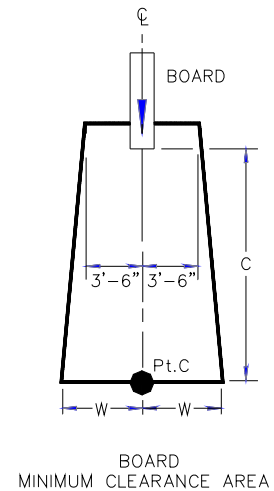

FIGURE 4
- A. The minimum clearance area in front of a properly installed diving board on an inground swimming pool is a minimum distance of three feet six inches (3'-6") on either side of the board's centerline as shown in FIGURE 4. Pt. C extends a minimum distance of "C" from the tip end of the board as shown in FIGURE 4. The width distance "W" on either side of Pt. C is given in CHART 1 and shown in FIGURE 4.